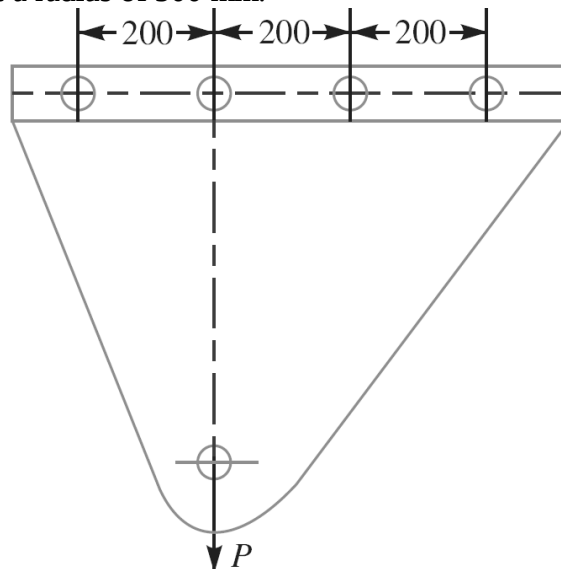

Figure 1(All dimensions are in mm.)
- (b) Find the value of P for joint shown in Figure 1, based on a working shear stress of 100 MPa for rivets. Each of four rivets is of 20 mm diameter. 07